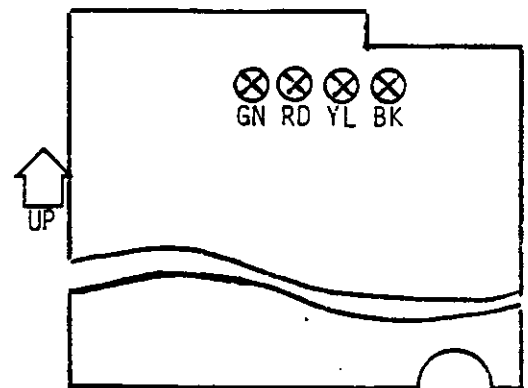

FIGURE 5
- c) Connect the 4 wires of the cable to the terminals on the printed circuit card of the box (see figure 5).